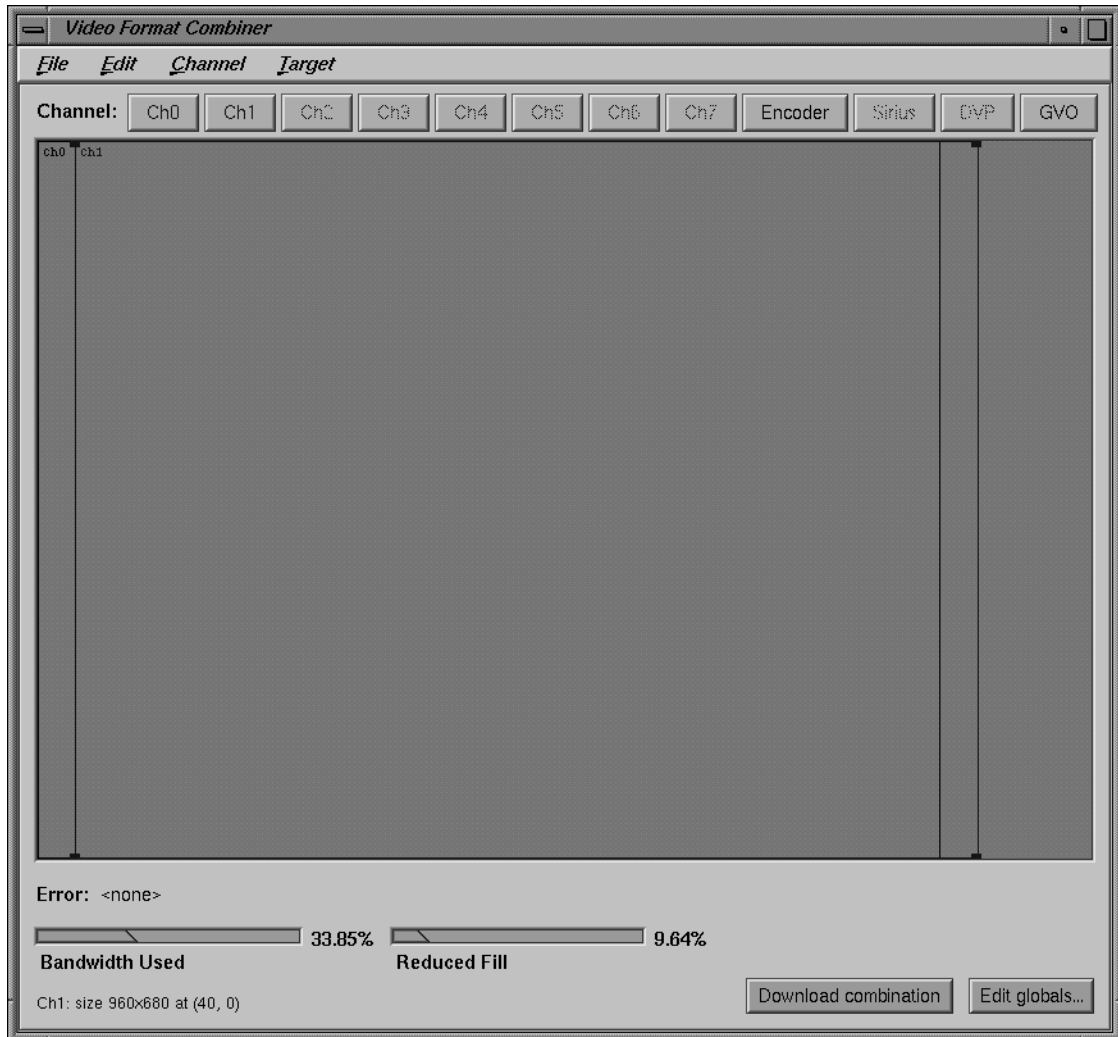

Figure D-6 Textport Error Message on the Main Window
5. Find and double-click the *960x680_60.vfo* file format. An error message appears at the lower left corner of the Combiner's main window, as shown in Figure D-6: "Textport channel Ch0 invalid."